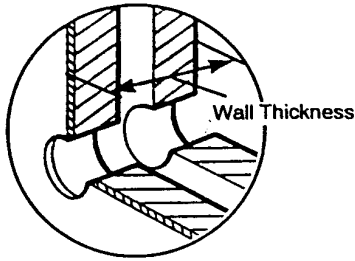

Fig. 22
1. Measure the wall thickness (Fig. 22) and to this dimension add 60mm ($2\frac{3}{8}$ in).